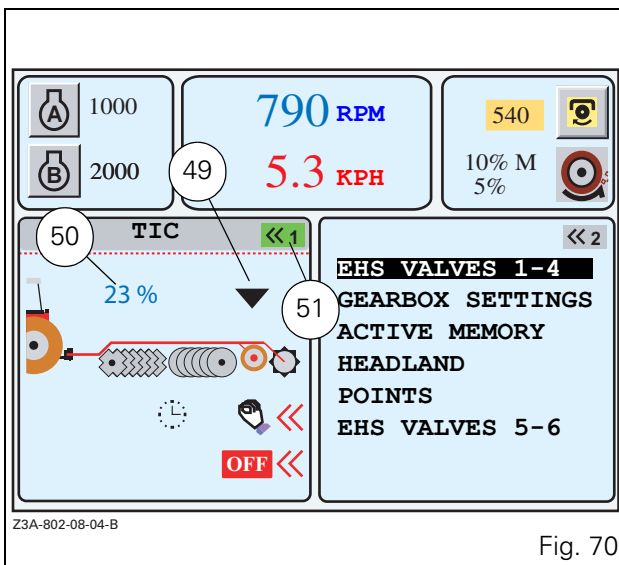

Fig. 70
- Validate by pressing the encoder or the key «1. The window (Fig. 70) is displayed.
Description (Fig. 70):
- Pressing the key «6 switches the TIC to ON or OFF when the window is active (green icon 51 Fig. 70).